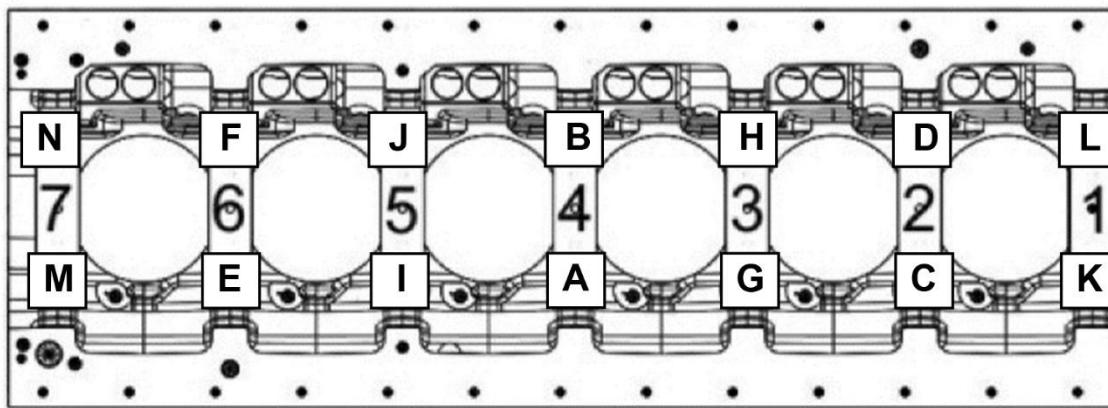

Figure 112.
- i. Tighten the main bearing bolts (Figure 112) in alphabetic order (A – N) to 59 lb-ft.
- ii. Tighten the main bearing bolts (Figure 112) in alphabetic order (A – N) to an angle of 60°.
- iii. Tighten the main bearing bolts (Figure 112) in alphabetic order (A – N) to an angle of 199 ± 15 lb-ft.